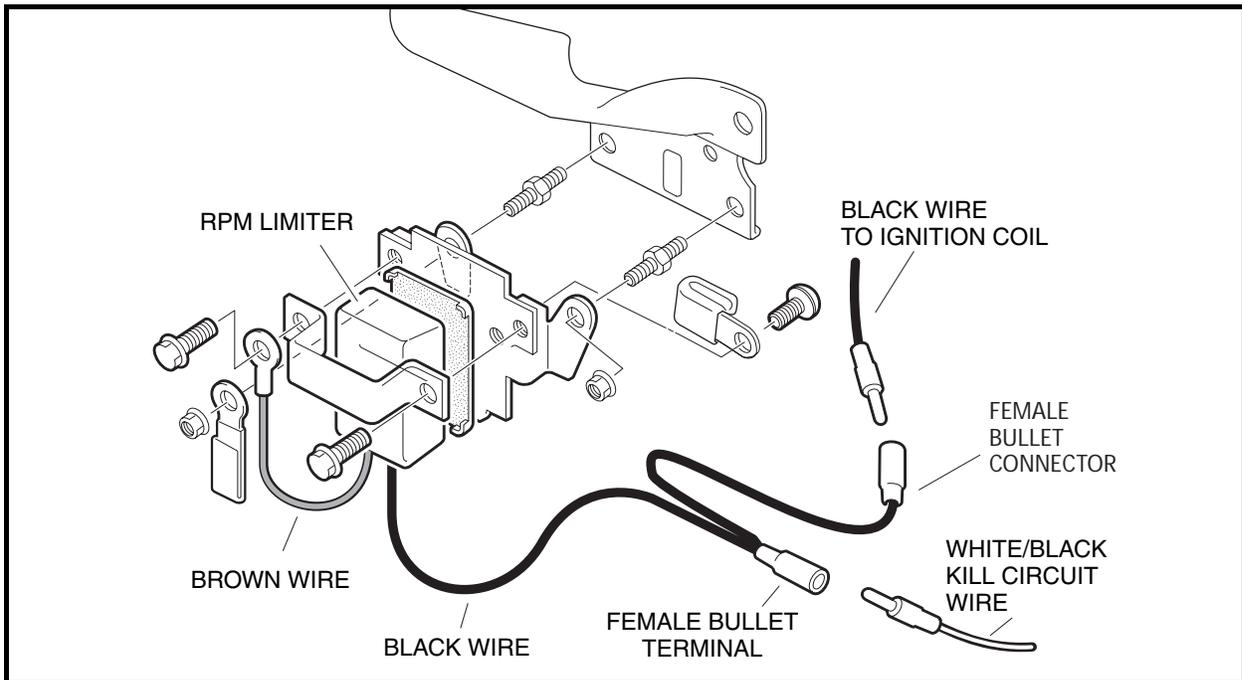

Figure 11-17 RPM Limiter
2. Disconnect both of the bullet terminals (**Figure 11-17, Page 11-21**).
- 2.1. Disconnect both of the bullet terminals at the RPM limiter (**Figure 11-17, Page 11-21**). Place the red (+) probe of the meter on the male bullet terminal of the wire connecting to the ignition coil under the fan housing, and place the black (-) probe on a clean unpainted surface of the engine or frame (**Figure 11-17, Page 11-21**).